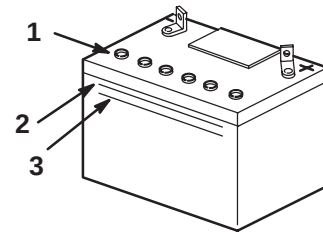

Figure 35
2. Look at the side of the battery. The electrolyte must be up to the Upper line (Fig. 35). Do not allow the electrolyte to fall below the Lower line (Fig. 35).
3. Remove the vent caps from the battery (Fig. 35).
4. Slowly pour distilled water into each battery cell until the electrolyte level is up to the Upper line (Fig. 35) on the battery case.
5. Wait five to ten minutes after filling the battery cells. Add distilled water, if necessary, until the electrolyte level is up to the Upper line (Fig. 35) on the battery case.